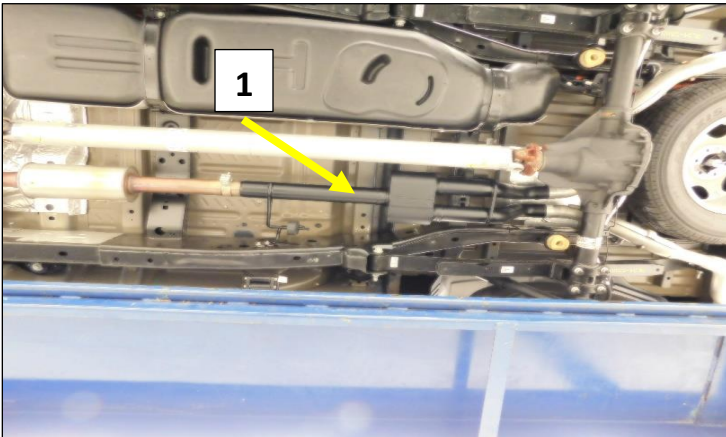

Figure 5
1. Install the Holley muffler assembly (1) into the outlet of the resonator pipe and support with a jack stand. **Fig.5**